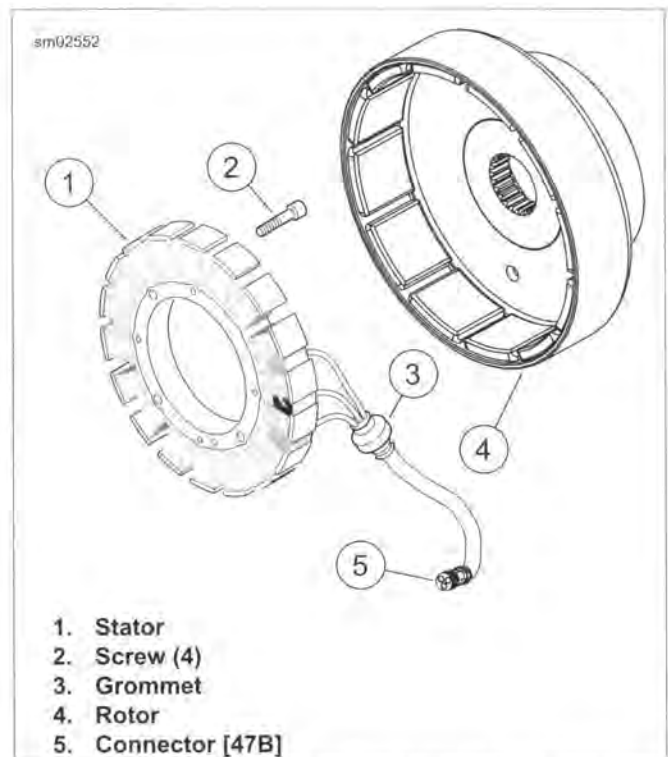

Figure 7-62. Rotor and Stator (Typical)
4. See Figure 7-62. Remove alternator rotor (4). Two bolts can be inserted through the holes in the rotor face to aid removal.
See Figure 7-62. Lubricate parts with glass cleaner or isopropyl alcohol.
2. See Figure 7-62. Push rubber grommet (3) with wires through crankcase hole. If necessary, apply the same lubricant used during removal.
3. Install the stator (1) on the crankcase and fasten in place using **new** screws (2). Tighten to 55-75 **in-lbs** (6.2-8.4 Nm).
4. Connect connector [47] (5) onto voltage regulator and engage latch to secure. See 7.17 VOLTAGE REGULATOR.
5. Install rotor (4) on the sprocket shaft.